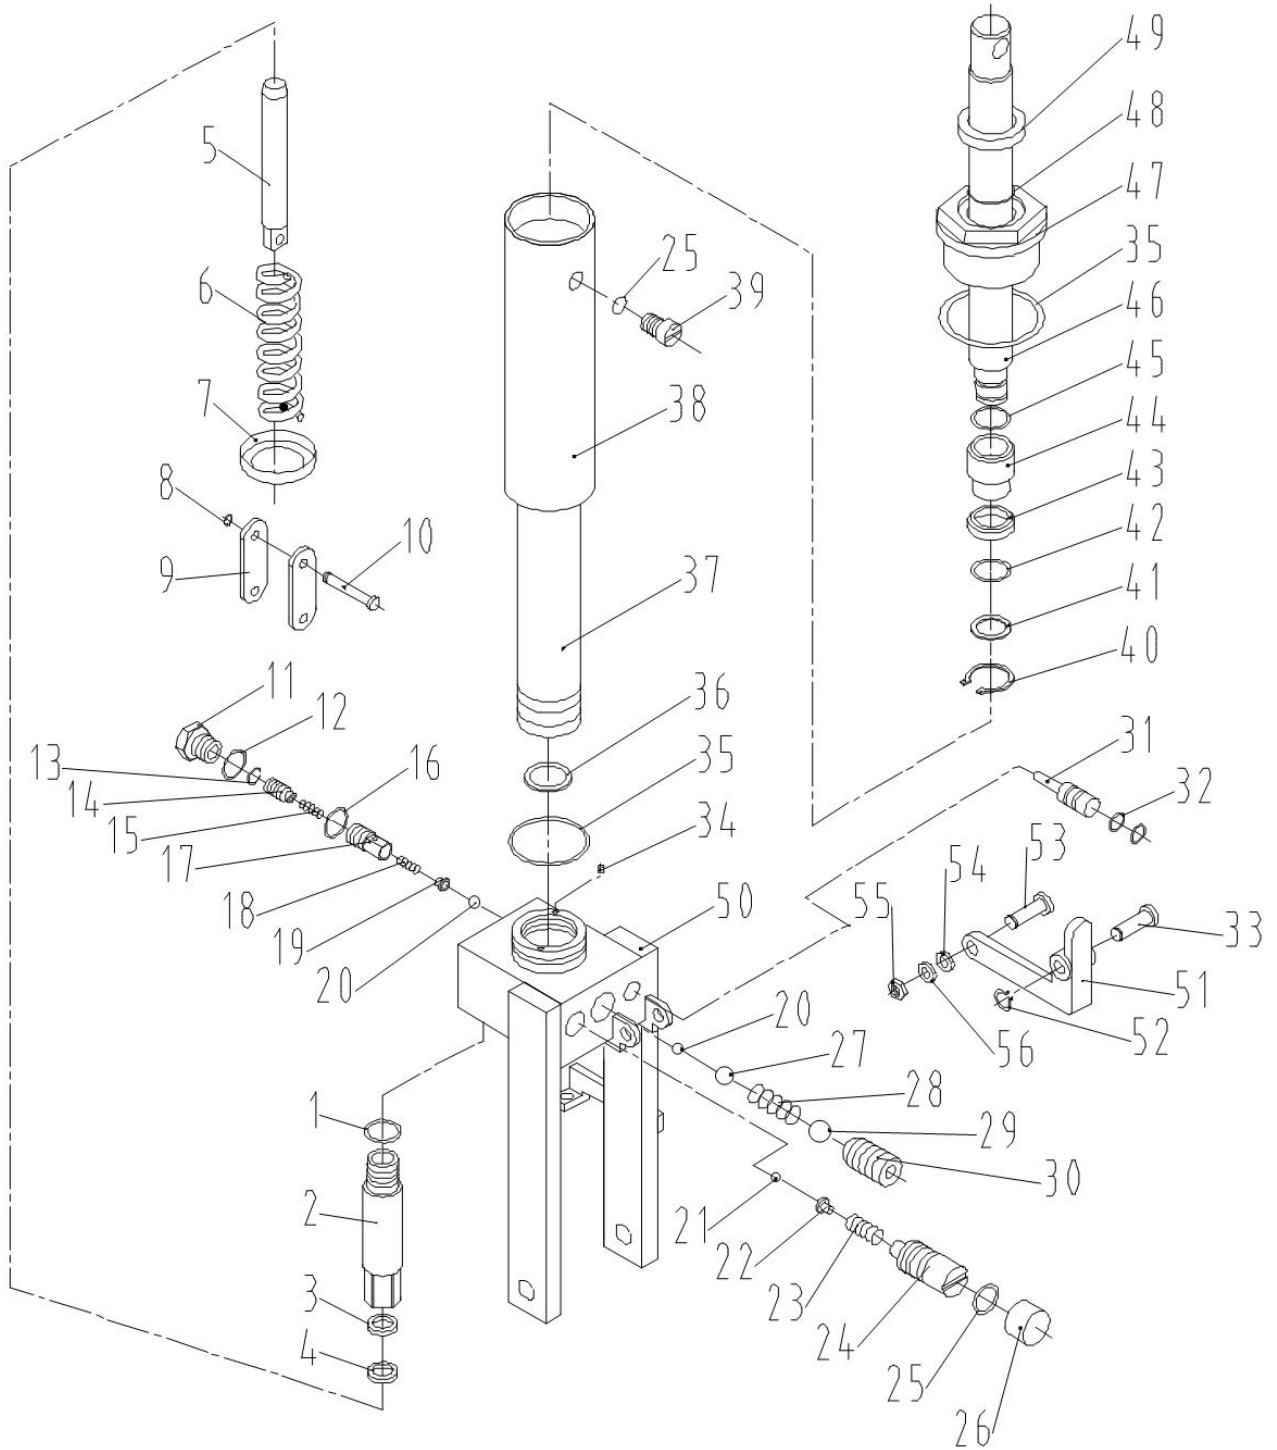

Figure 1
Screw out the 11# sealing screw in the pump (see figure 1 in the appendix) with a wrench; Pull the knob up; Unscrew the oil plug screw 39# and add hydraulic oil;
8. Materials of the sealing parts 1#,3#,4#,16#,25#,26#,32#,35#,36#,42#,43#,45#,48#,49# of the pump(see figure 1 in the appendix) is rubber, PU, whose maintenance interval is 2-year. Replace the sealings in time to avoid possible damage and poor performance of the truck.